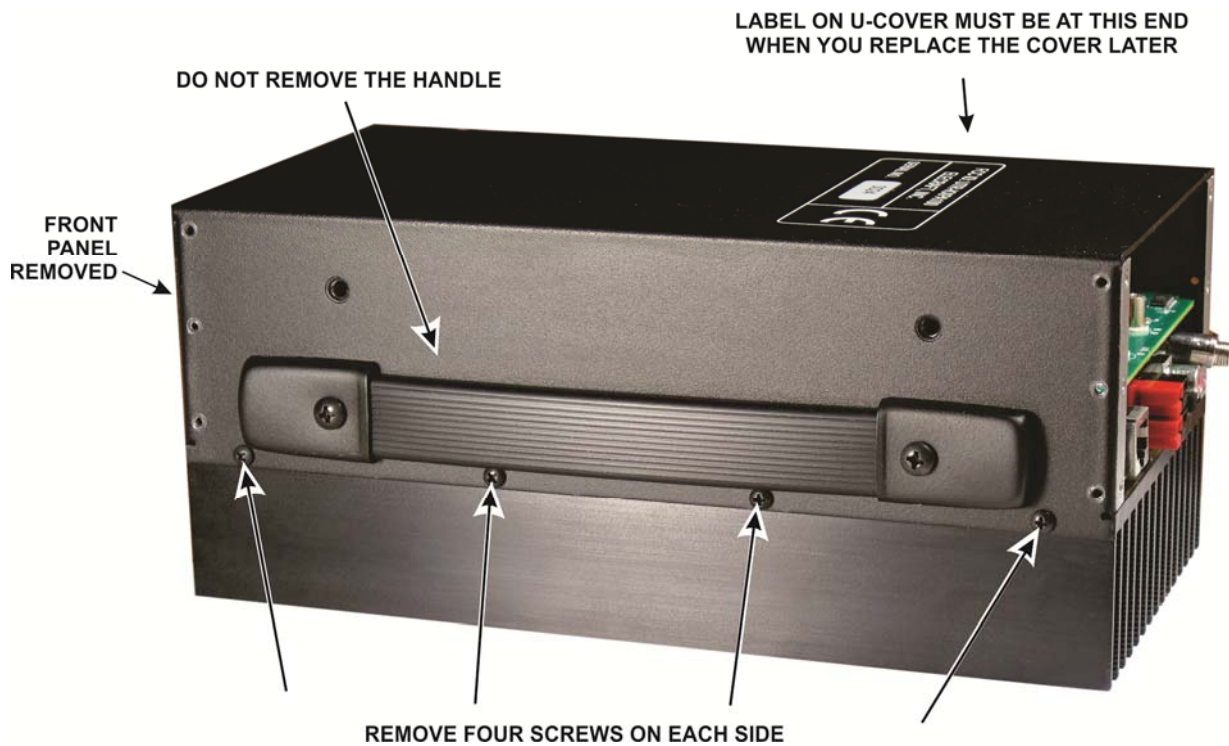

Figure 6. Removing the Bottom Cover
☐ Remove the four screws from each side of the bottom U-cover as shown in Figure 6 and lift it straight up off of the KXPA100.
When replacing the bottom U-cover in the next step, be sure it is oriented with the lettering toward the rear panel as shown in Figure 6. Reversing the orientation will cause the threaded bushings for the handle to strike the circuit boards.
- Replace the bottom U-cover so the end with the label nearest the rear panel (the correct orientation is shown in Figure 6).
- Secure the bottom cover with eight screws, four on each side as shown in Figure 6. Do not use lock washers under these screws.